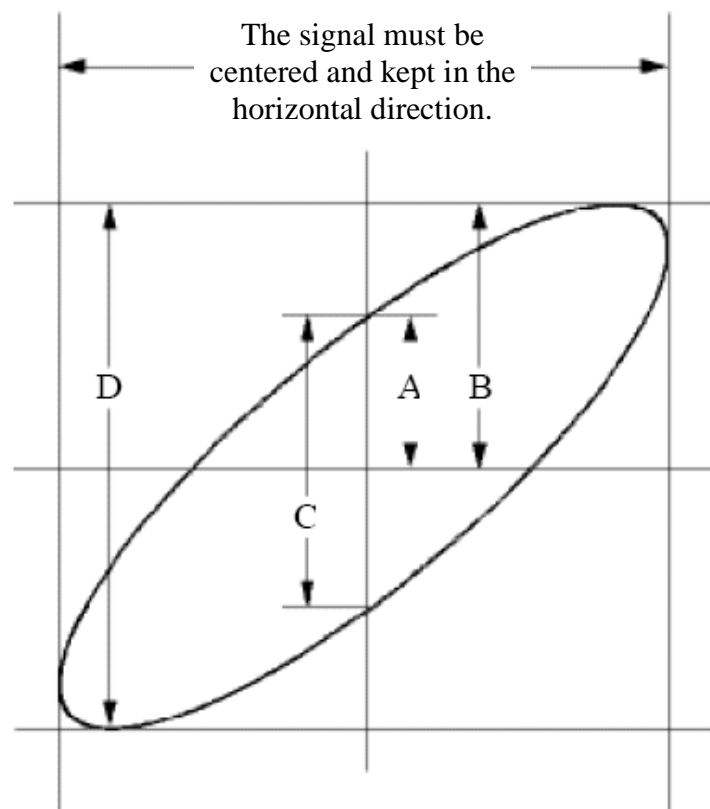

Figure 9-6 Lissajous Graph
- (4) Push the **Autoset** button, with the oscilloscope turning on the signals of the two channels and displaying them in the screen.
- (5) Push **CH1** button to select CH1, turn the **Vertical Scale** knob, and then push **CH2** button to select CH2, turn the **Vertical Scale** knob, making the amplitudes of two signals equal in the rough.
- (6) Push the **Display** button and recall the Display menu.
- (7) Select **XY Mode** in the bottom menu. Select **Enable** as **ON** in the right menu. The oscilloscope will display the input and terminal characteristics of the network in the Lissajous graph form.
- (8) Turn the **Vertical Scale** and **Vertical Position** knobs, optimizing the waveform.
- (9) With the elliptical oscillogram method adopted, observe and calculate the phase difference (see *Figure 9-6*).